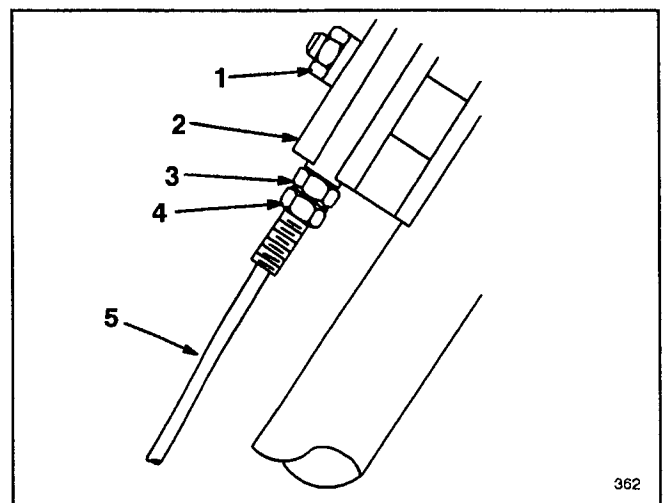

Figure 16
2. Loosen nut on support block (Fig. 16).
3. Loosen bottom jam nut on wheel traction cable (Fig. 16).
8. Top jam nut should be against support block when adjustment is complete (Fig. 16).